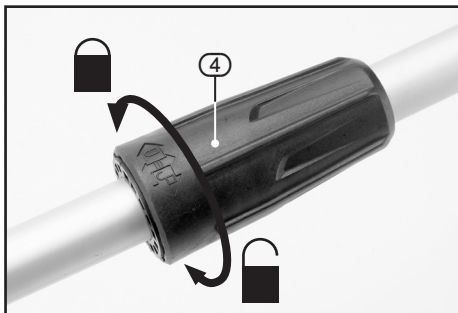

FIG.9
10.1 TOOL CONNECTOR – FIG.9
- Ensure the tool connector (4) is locked in place prior to using the machine.